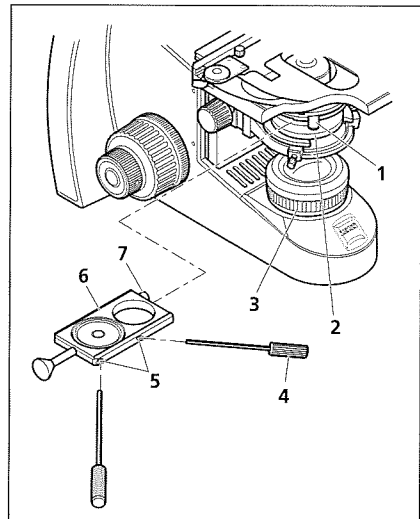
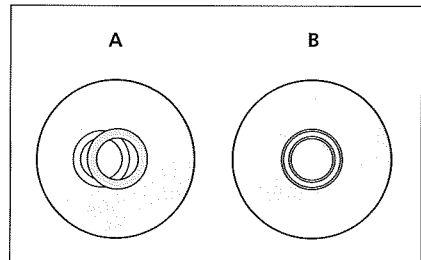

Fig. 9 Inserting the slider
Fig. 10 Centering the phase stop
- Open the luminous-field diaphragm (Fig. 9/3, if adjustable) on the stand and open the aperture diaphragm by means of control lever (Fig. 9/1) on Abbe condenser (Fig. 9/2).
- If the phase-contrast slider (Fig. 9/6) was not factory-installed yet, first unscrew its screw (Fig. 9/7). Then, push the slider from the left into the Abbe condenser and screw the screw (Fig. 9/7) back in again.
- Check the centering of the phase stop according to the drawing in Fig. 10. To this end, remove one eyepiece and replace it by the eyepiece telescope.
- Center the phase stop, if necessary, (Fig. 10/A) by turning the two adjusting screws of the slider (Fig. 9/5) by means of the two Allen keys SW 1.5 (Fig. 9/4) until the phase stop image corresponds to that shown in Fig. 10/B.